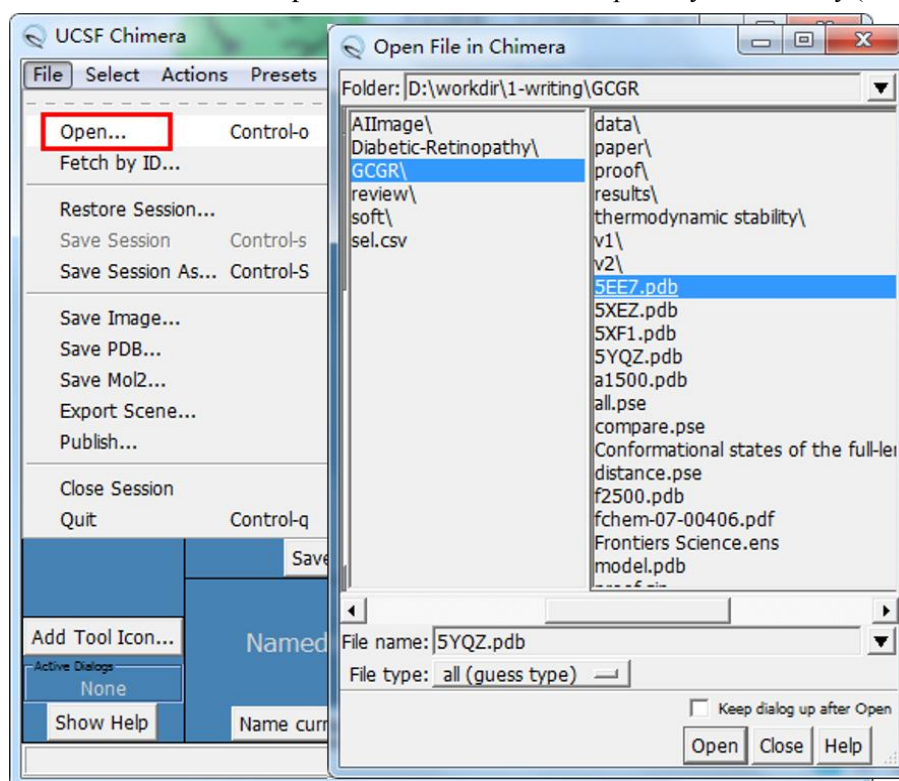

Figure 1. Loading a molecule.
2. Start UCSF Chimera: File→Open, load the PDB file 5EE7.pdb in your directory (see Figure 1).